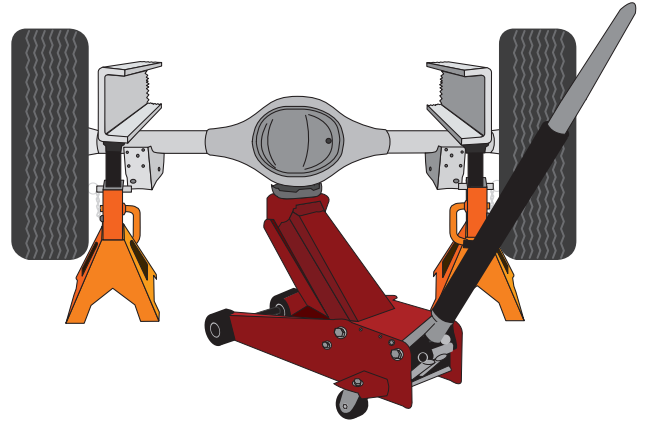

Fig. 2
1. Raise the vehicle and support it in a way, using safety stands or equivalent, that the axle can be safely lowered away from the frame. This will need to be done in order for the air spring assembly to be put into position between the axle and frame (Fig. 2).